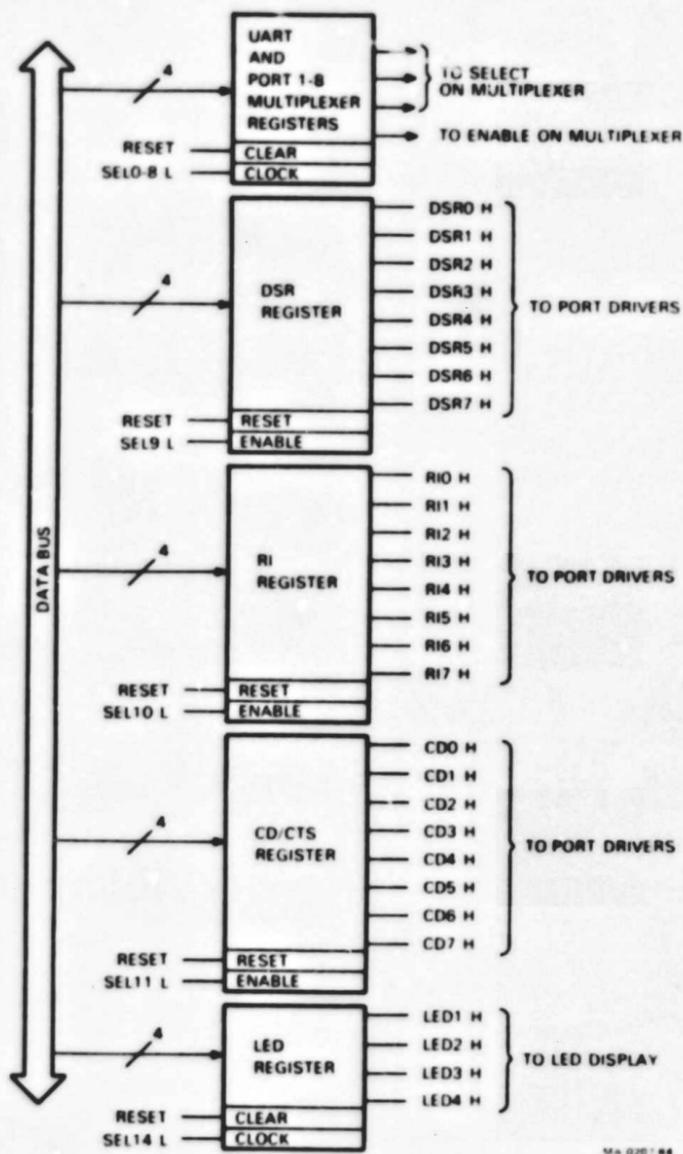

Figure 2-13 Write Control Registers with Data Bus
Figure 2-13 shows the write control registers with their select signals and the data bus. Refer to this figure for the following discussion.
**2.3.7.1 Multiplexer Control Registers (Figure 2-13)** - These registers are quad edge-triggered D flip-flops. There is one control register for each of the nine multiplexers on the logic board - eight for the port multiplexers and one for the UART multiplexer. Select signals SEL0 through SEL8 enable each of these control registers. When selected, the data from the data bus is latched at the output lines of the register. This data from the register is used to enable and select a port on the corresponding multiplexer.